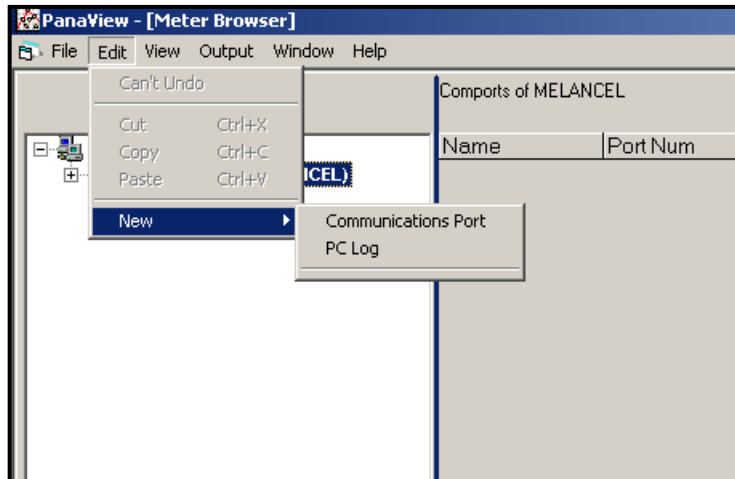

Figure 17: The Edit Menu
3. Click on the “New” menu option to select it, and a submenu opens with two choices on it (see Figure 17 below).